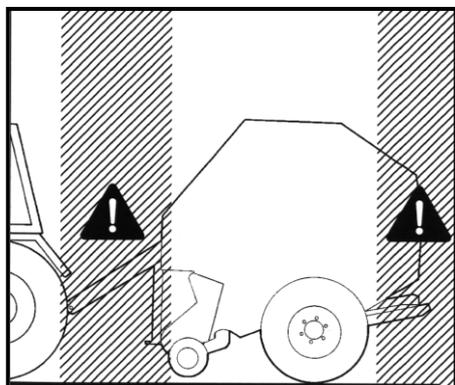

Fig. 3 – Hazard zone
- It is strictly forbidden to stand between the tractor and round baler with the engine running and the PTO shaft engaged (Fig. 3), and likewise when the parking brake is not pulled on.
All the safety signs positioned on one side the round baler and illustrated in Fig. 3 are applied in exactly the same position on the other side as well.